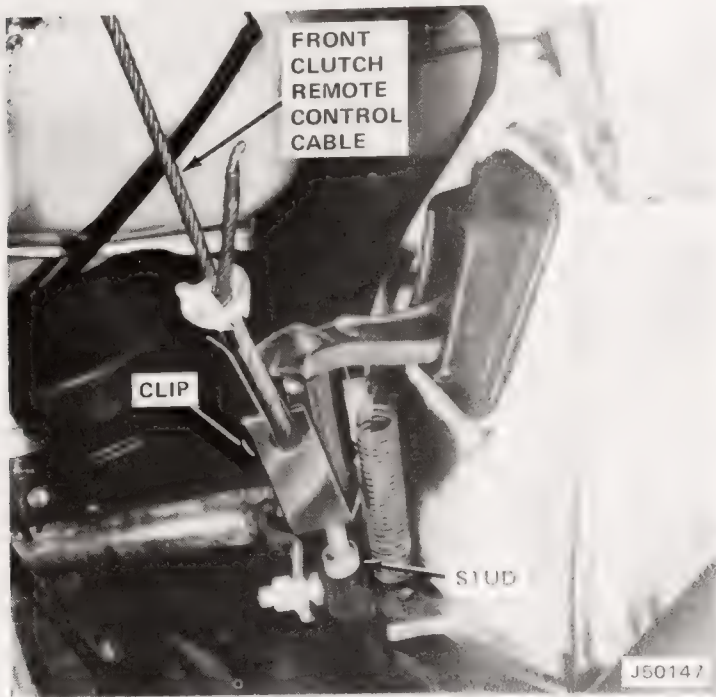

Fig. 10-4 Front Clutch Cable Installation
(1) Remove front clutch remote control cable from clutch lever and from front clutch control crossbar (fig. 10-4).